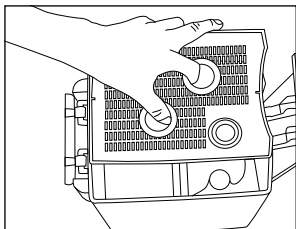

fig 11
- Remove the lid of the filtering materials by inserting your fingers into the appropriate holes to facilitate the operation (fig. 11).
N.B.: before closing the hooks or forcing the safety levers, make sure that the filtering material are in their proper position, that the containers of the filtering materials overlap perfectly (i.e. that no materials protrude) and that the lid of the filtering materials (fig. 11) is in the correct position.